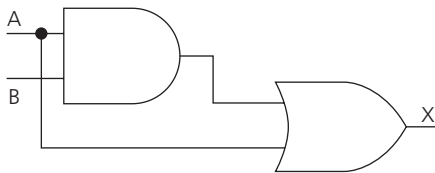

Figure 8 Logic circuit for  $X = A + A.B$
Logic gates can be combined together to form **logic circuits** that can also be described using Boolean algebra. Consider the Boolean expression  $A + A.B$ . This contains an AND function  $A.B$  and an OR function  $A + A.B$ , so, to get the result expressed by this algebra, both an AND gate and an OR gate must be present in the circuit one after the other. The logic circuit is shown in Figure 8.
- For the logic circuit in Figure 8, state, in Boolean algebra,
- The (incomplete) truth table for the logic circuit in Figure 8 is shown below. Copy and complete the table.